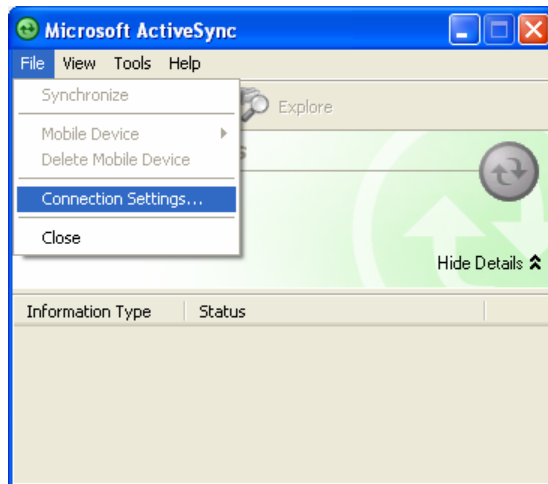

Figure 7.13
2. In **Connection Settings** screen, check the **Allow connections to one of the following** box and choose **DMA** in the pull-down menu. See Figure 7.13.